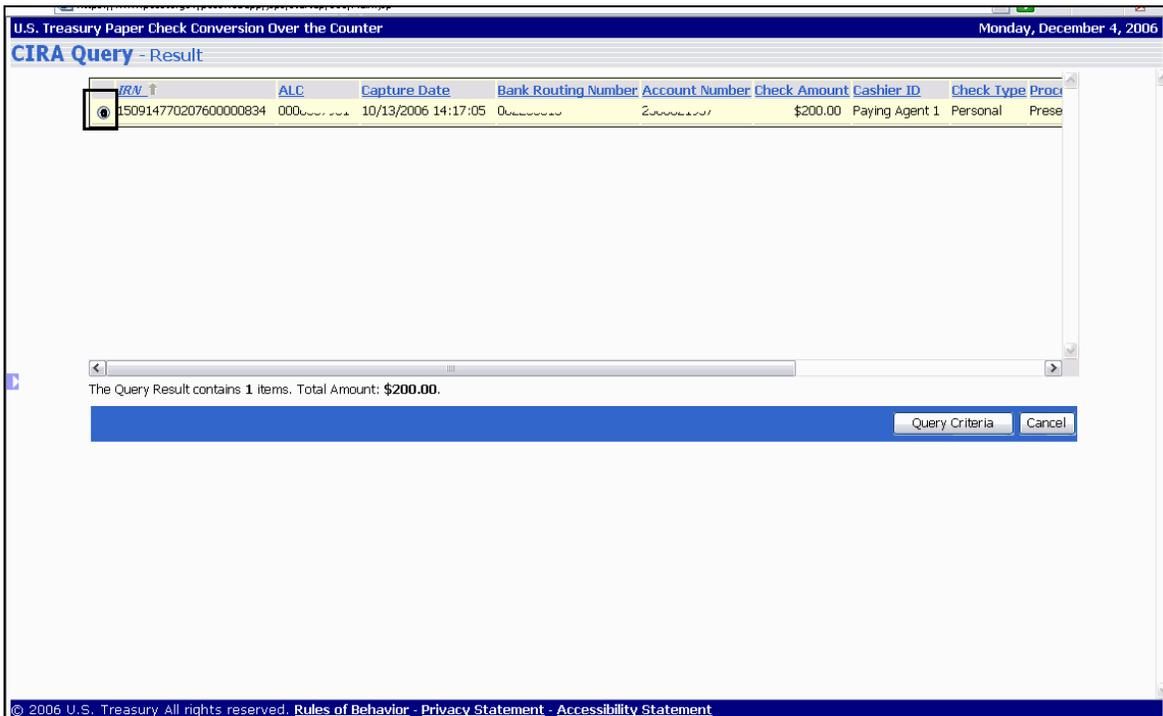

Figure 5.45.4
Step 3: Click the 'View Items' button at the bottom of the CIRA Query screen. The CIRA Query Results screen will appear. (Figure 5.45.4)